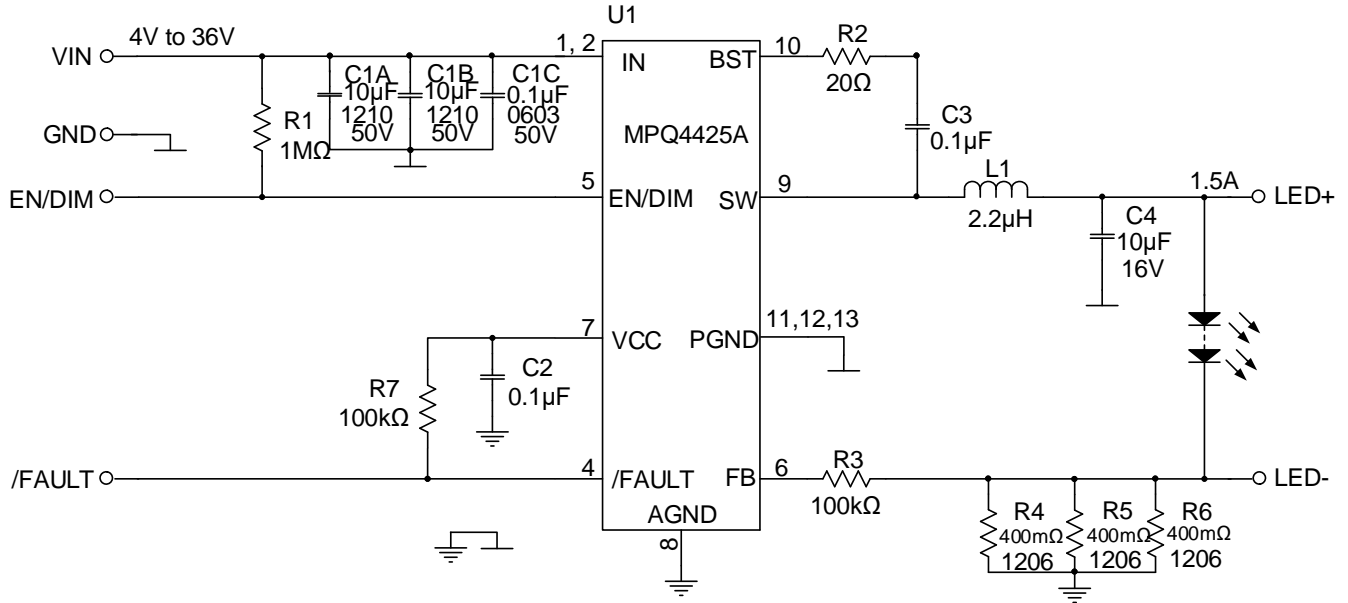

Figure 8: $I_o = 1.5A$ Application Circuit
6) The recommended layout is based on Figure 8.